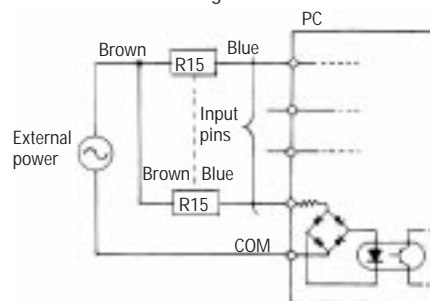

Fig. 10 R15 connection to AC-input PC
Pattern of connection varies with the type of programmable controller (PC). Follow wiring instructions shown in Figures 10 ~ 15.